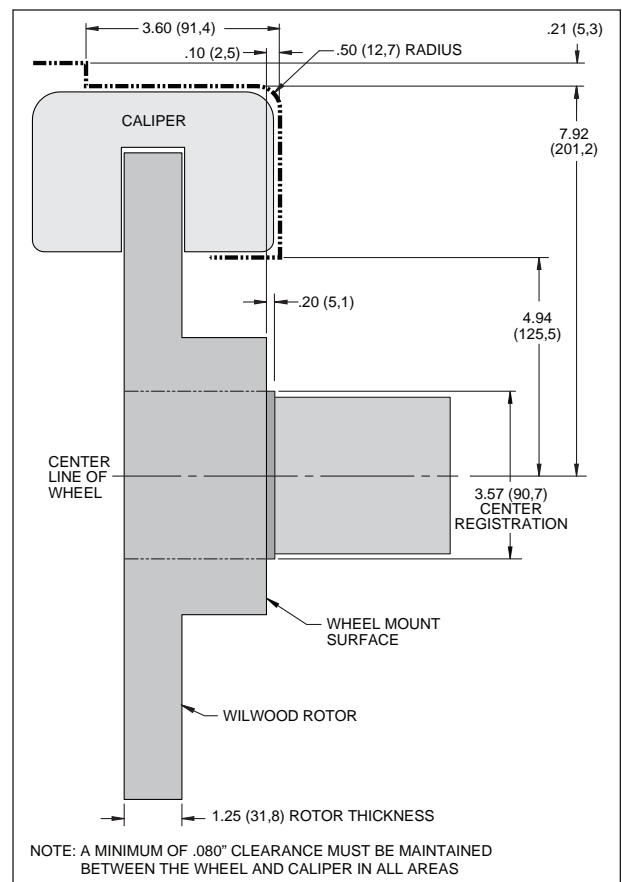

Figure 2. Wheel Clearance Diagram
- Review the Wheel Clearance Diagram (Figure 2, page 3) to verify that there is adequate clearance with the wheels you will be using with the installation.
- Verify your wheel clearance using Figure 2.
- **CAUTION:** Wheel fitment to OEM hub interference must be checked. There is a 3.57" diameter step on the hub face that was used to register the old brake drum (Figure 2). Be sure your wheel fits flush against the hub face. If the step interferes, you will need to use a wheel spacer (customer supplied) to clear the step.
- Temporarily install the wheel and torque the lug nuts to the manufacturer's specification. Ensure that the wheel rotates freely without any interference. **CAUTION:** *Wheel fitment to OEM hub interference must be checked.* There is a 3.57" diameter step on the hub face that was used to register the old brake drum (Figure 2). Be sure your wheel fits flush against the hub face. If the step interferes, you will need to use a wheel spacer (customer supplied) to clear the step.
•**NOTE:** *OEM rubber brake hoses generally cannot be adapted to Wilwood calipers. The caliper inlet fitting is a 1/8-27 NPT. Install Wilwood's stainless steel braided flexline hose kit (22), P/N 220-13319 included with this kit. **Carefully route hoses to prevent contact with moving suspension, brake or wheel components.** NOTE: *Wilwood hose kits are designed for use in many different vehicle applications and it is the installer's responsibility to properly route and ensure adequate clearance and retention for brake hose components.**